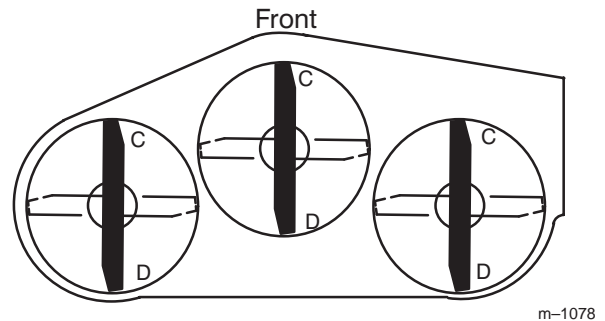
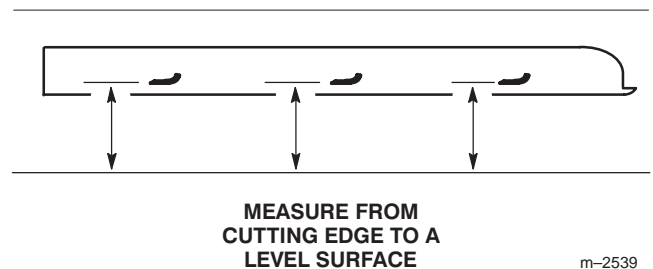

Figure 52
Figure 53
2. Position one blade front-to-rear (Fig. 52). Measure at C and D locations (Fig. 52) from a level surface to the cutting edge of the blade tips (Fig. 53).
4. Position the blades front-to-rear (Fig. 52). Measure at **C** and **D** locations (Fig. 52) from a level surface to the cutting edge of the blades (Fig. 53).